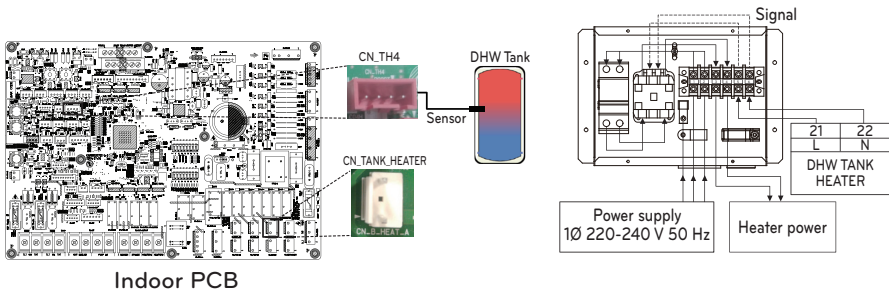

Fig. 1
Step 2. Connect Harness(Violet) of Main PCB assembly(TB1(6/7)) to 'CN_TANK_HEATER' of the Main PCB like following fig. 1.
Step 4. Connect power supply to the DHW tank kit as shown fig. 1.
Step 1. Decide where the remote temperature sensor is Installed. Then, Determine the location and height of the fixing screws in fig. 1 (Interval between the screws : 60 mm)